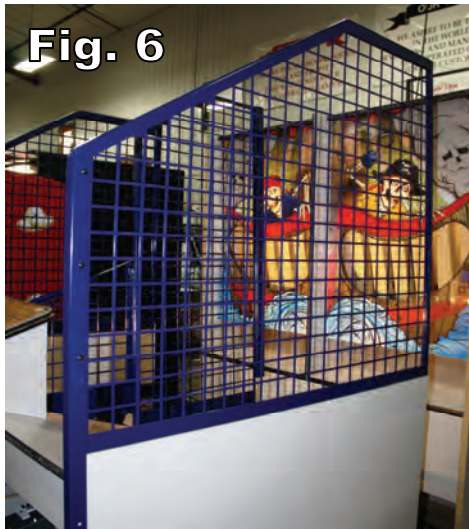

Fig. 6
6. Install the outer metal screens. They are marked left and right. Place the screens on the middle cabinet frame and push tight up against the rear cabinet. See figure 6.